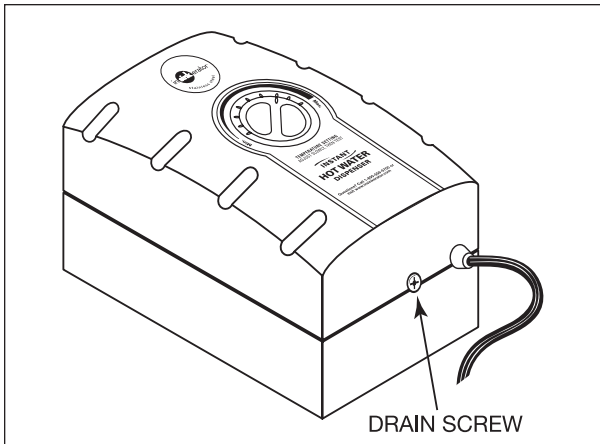

Figure 1
4. Place bucket below tank and remove drain screw on bottom of tank (see Figure 1). Install screw when water has drained.